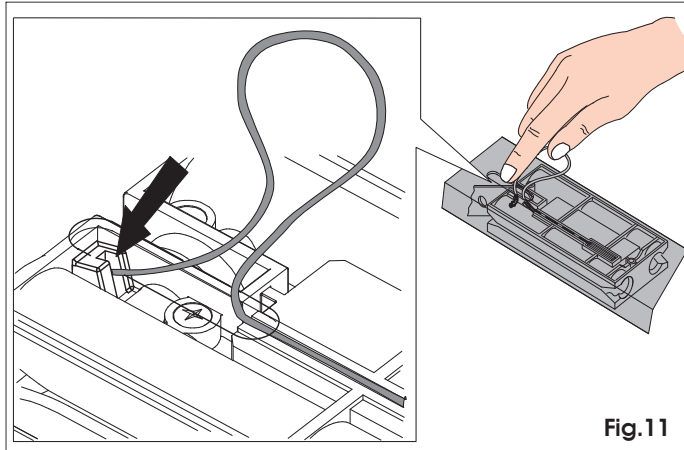

Fig. 11
- 3) Take the carriage back toward the drive clutch unit until the through-hole on the carriage coincides with the slot, and fit the unsheathed cable (Fig. 11).